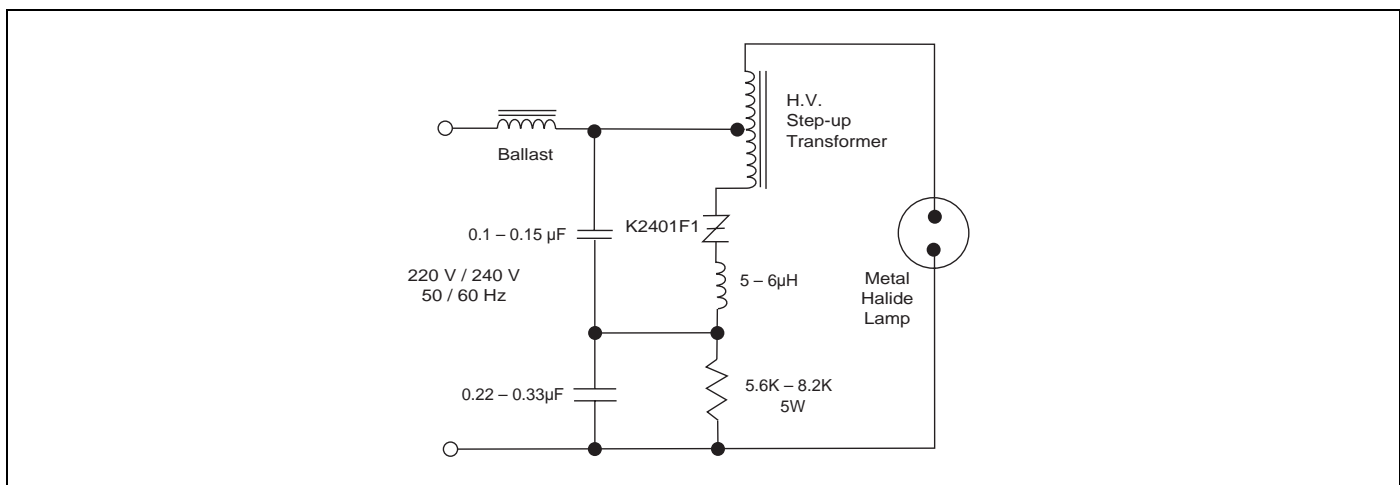

Figure E9.17 Typical Metal Halide Ignitor Circuit
- The K2401F1 sidac is designed to ensure good commutation at higher switching frequencies, as required in ignitor circuits for high intensity discharge (HID) lighting. A typical circuit for a metal halide lamp ignitor is shown in Figure E9.17. With proper component selection this circuit will produce three pulses for ignition of Osram lamp types such as HQI-T70W, HQI-T150W, and HQI-T250W which require a minimum of three pulses at 4 kV magnitude and >1 µs duration each at a minimum repetition rate of 3.3 kHz.